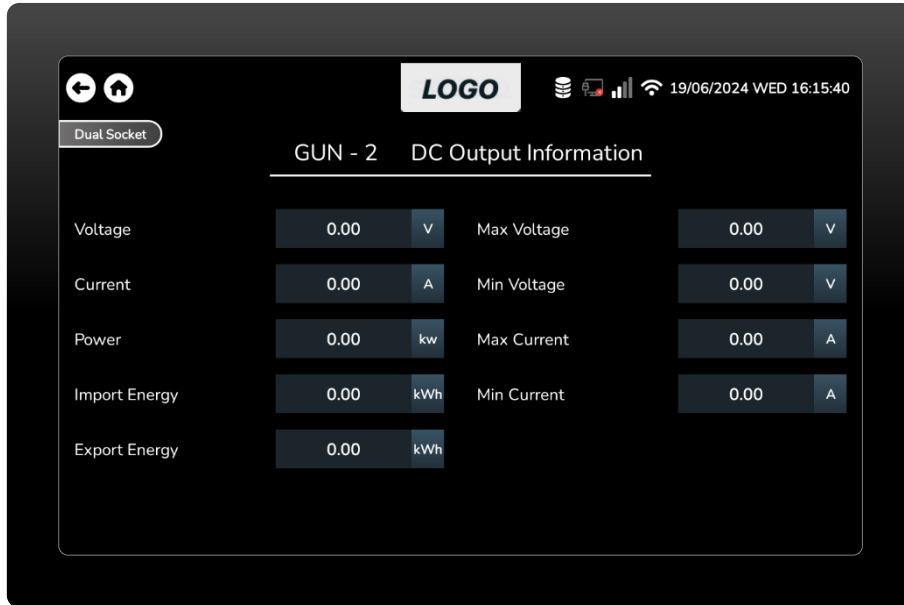

Figure 33 GUN-2 DC output information.
- This is the DC meter information screen. The user can view information such as voltage, maximum and lowest voltage, current, maximum and minimum current, power, import and export energy. (Figure 33)